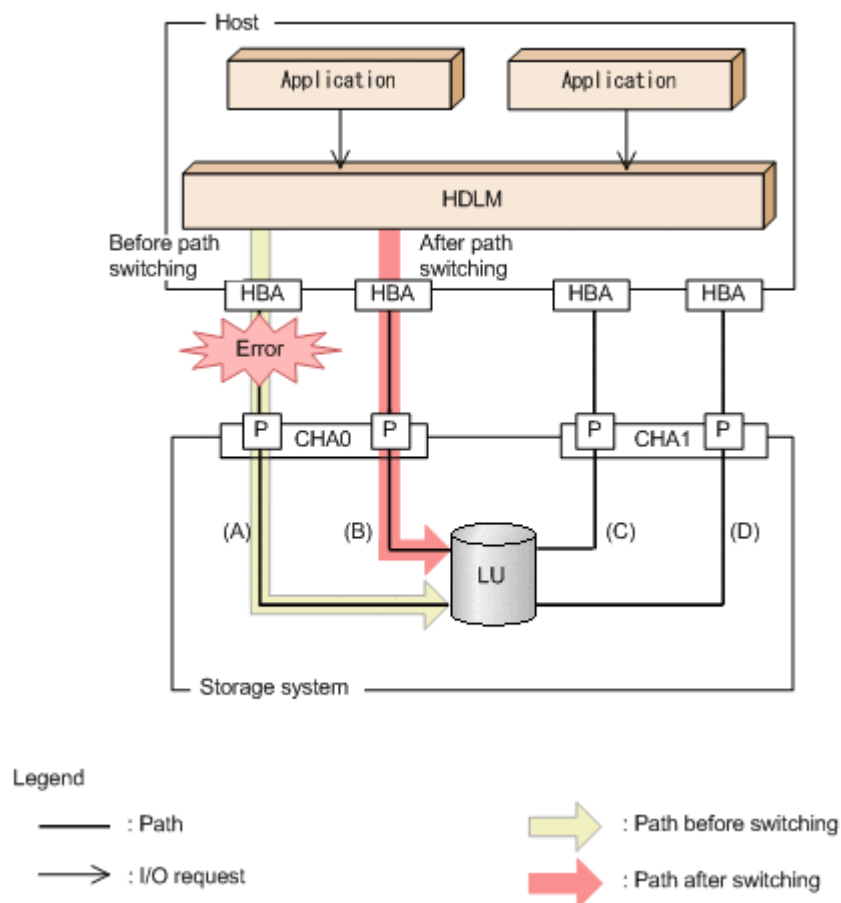

Figure 2-10 Path switching
If the storage system is supported by HDLM, usually all paths are owner paths. As a result, all of the paths accessing the same LU can be possible switching destinations. For example, in Figure 2-10 Path switching on page 2-21, the LU is accessed using only the one path (A). However, after that path is placed offline, the switching destination can come from any of the other three paths (B, C, or D).
When non-owner paths exist, HDLM will select the path to be used next from among the various paths that access the same LU, starting with the owner paths, and then the non-owner paths. For example, in Figure 2-10 Path switching on page 2-21, the owner controller of an LU is CHA0, and access to the LU is made via only one path (A). After that access path (A) is placed offline, the first choice for the switching destination is the other path connected to CHA0 (B). If an error also occurs on that path (B), then the next possibility for a path comes from one of the two paths (C or D) connected to CHA1.